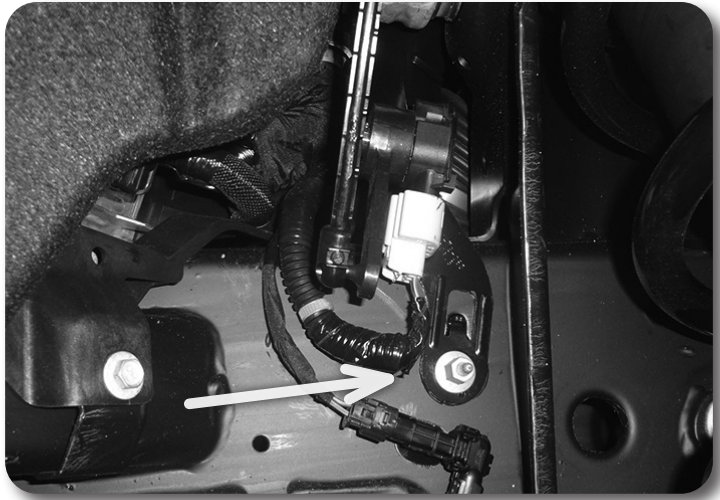
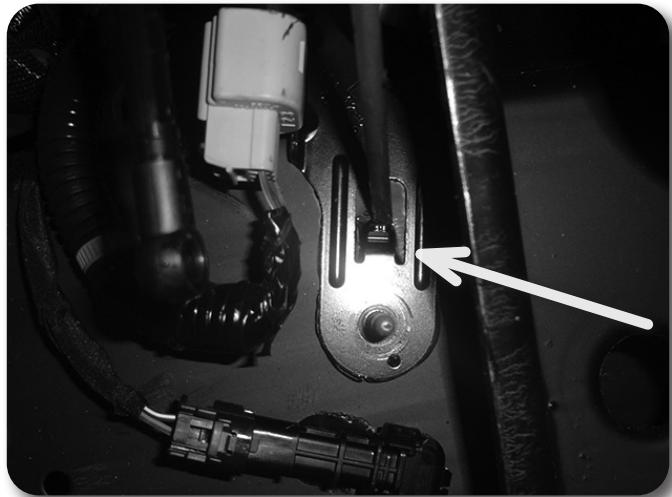

Figure 48A
Figure 48B
73. **6" Denali Models (ARC Models) Only:** Remove the nut attaching the ARC sensor to the frame Fig. 48A. Lightly reattach the nut to the stud. Tap the stud in until the bracket assembly is loose. Remove the ARC sensor from the frame by prying down on the tab and pulling out on the sensor bracket Fig. 48B.